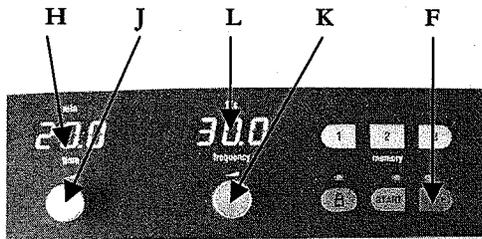

Fig.3
- The LED above **STOP F** flashes briefly after the machine has been turned on. **Fig.3**
Set time to 10 sec - 99 minutes: **Fig.3**
Set frequency to 3 - 30 Hz: **Fig.3**